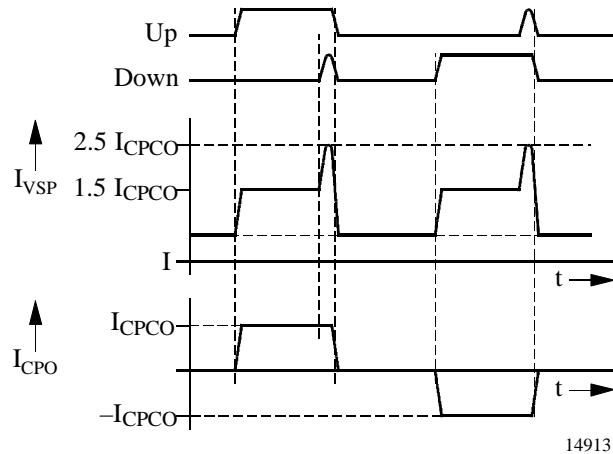
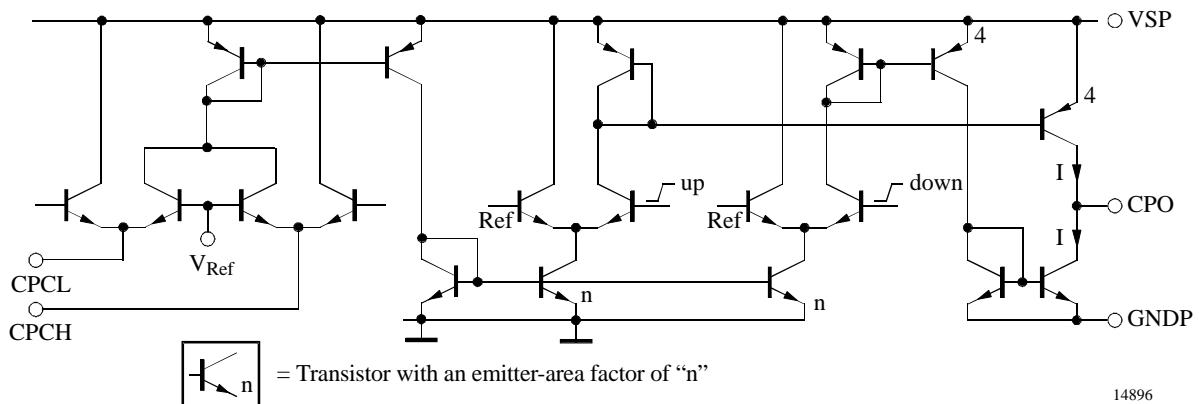

Figure 3. Supply current of the charge pump
Figure 6. Charge pump
1) Mean value, measured with F_{ND} = 151 MHz, F_{RD} = 150 MHz, current vs. time, figure 3
Due to the pulsed operation of the charge pump, the current into the charge-pump supply Pin VSP is not constant. Depending on I (see figure 6) and the phase difference at the phase-detector inputs, the current I_{VSP} over time varies. Basically, the total current is the sum of the quiescent current, the charge-/discharge current, and – after each phase comparison cycle – a current spike (see figure 3).